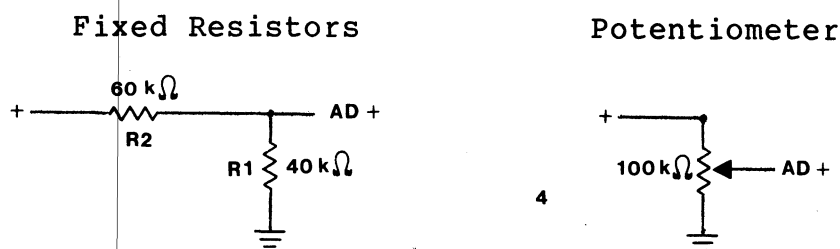

Figure 4: Attenuation of a High Voltage Signal
Direct current (DC) voltages larger than  $\pm 4$  Volts can easily be attenuated by means of fixed or variable resistors (potentiometers). For example, a 10 Volt signal could be attenuated to 4 volts by the circuits in Figure 4: